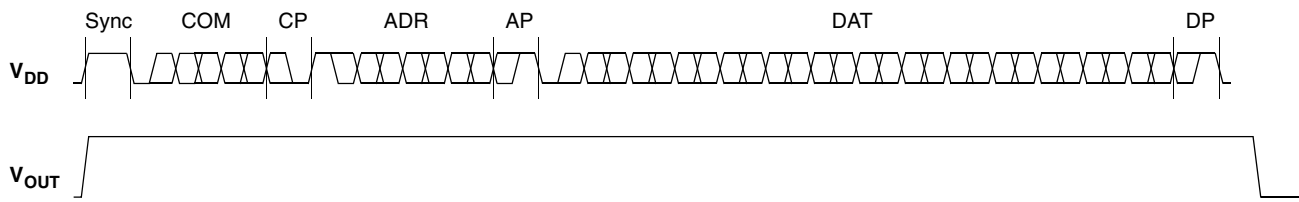

Fig. 5-2: Telegram for coding a Write command
- Write a register (see Fig. 5-2 on page 34)